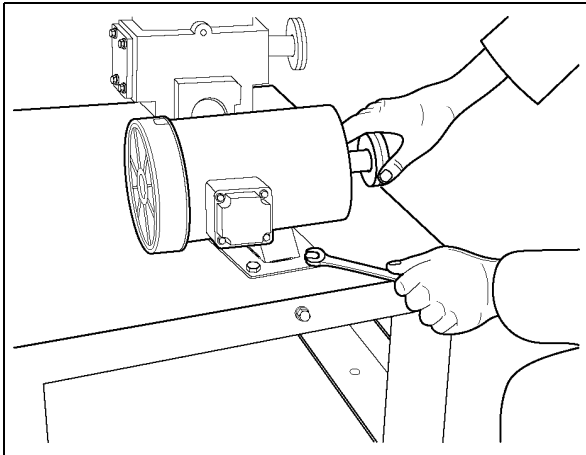

Figure 7H
- Using four (4) 5/16" x 3/4" flange head bolts, mount the motor to the airlock deck. Place the specified pulley on to the motor shaft and align to pulley on gearbox. (See Figure 7H).